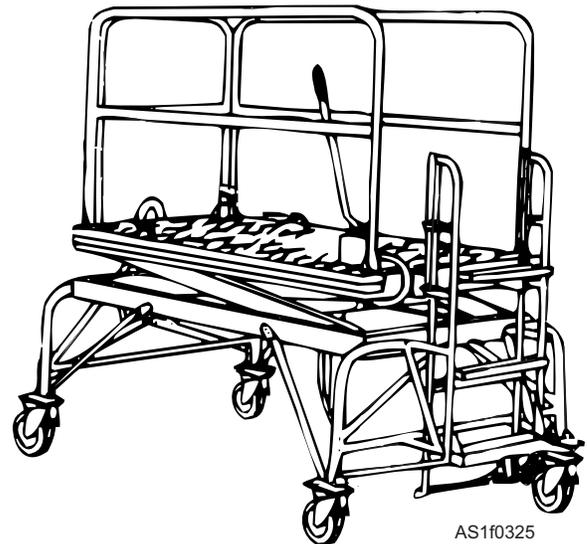

Figure 1-27.—B-4A maintenance platform.
**B-4A MAINTENANCE PLATFORM.**—The B-4A maintenance platform (fig. 1-27) is a moveable, hydraulically operated, adjustable platform with a ladder assembly. It has free swivel caster assemblies, with each having a foot lever-actuated mechanical brake and lock mechanism. The platform is equipped with safety guardrails and locking pins that lock the extension scissors. This prevents the platform from collapsing in the event of a hydraulic system failure. The height range is 3 to 7 feet. Overall height of the B-4A is 6-1/2 feet lowered and 10-1/2 feet raised, and it has a weight bearing capacity of 600 pounds.